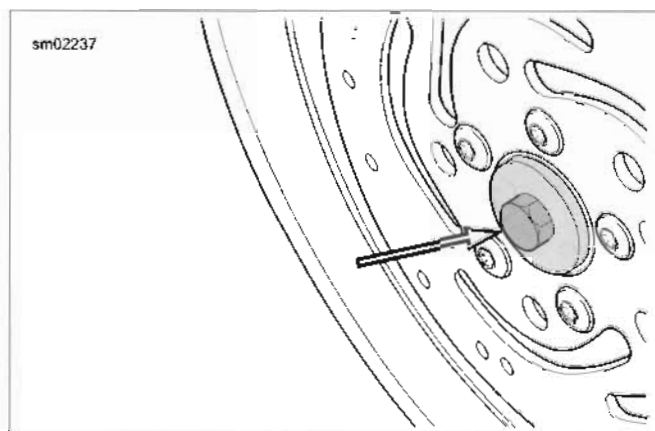

Figure 2-27. Assembling Installation Tool
- b. See Figure 2-27. Place threaded rod through support plate. Insert assembly through wheel.